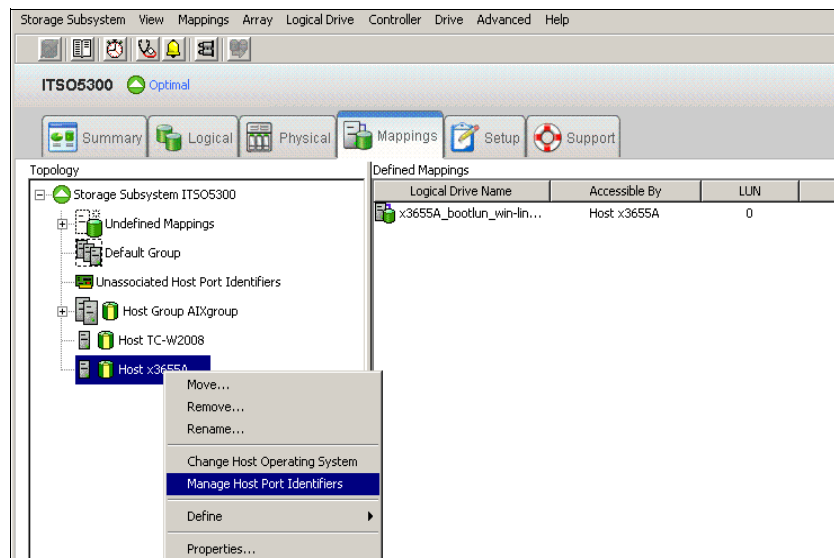

Figure 6-35 Storage Manager - Manage Host Port Identifiers
1. In Storage Manager mapping view, select the host and define the second host port of the server to be part of the storage partition as seen in Figure 6-35.